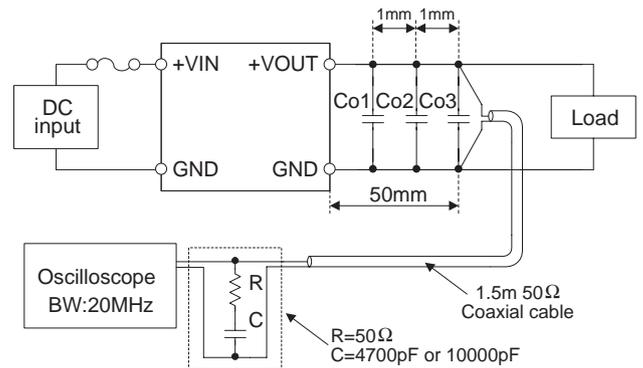

Fig.3.4 Measuring method of Ripple and Ripple Noise
■ Ripple and Ripple Noise are measured, as shown in the Fig.3.4.  $C_{o1}$ ,  $C_{o2}$  and  $C_{o3}$  is shown in Table 3.3.